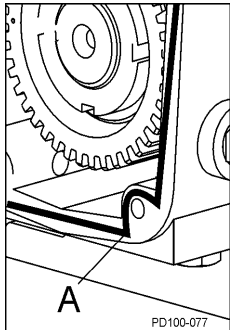

Figure 96 - Sealant Placement
3. Apply silicone sealant to the back of the gear case. (Gore-Tex[®] sealing tape can be used on silicone-free models.) Place tape on the inside of the screw holes. (Figure 96, item A).